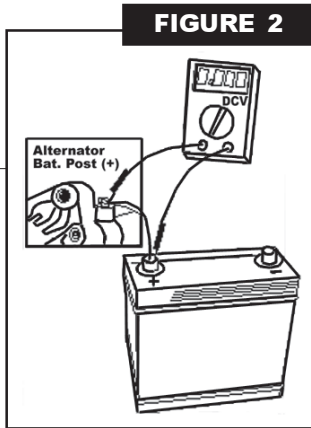

FIGURE 2
- ◆ Using the voltmeter, measure the voltage drop between the batty positive post (+) and the alternator output post (See figure 2). Voltage should be less that 0.40VDC. If voltage is higher that 0.40VDC, check for poor connections between the alternator and the battery. Possible causes are unsized battery cables, loose or improperly crimped terminals, and corroded connections.